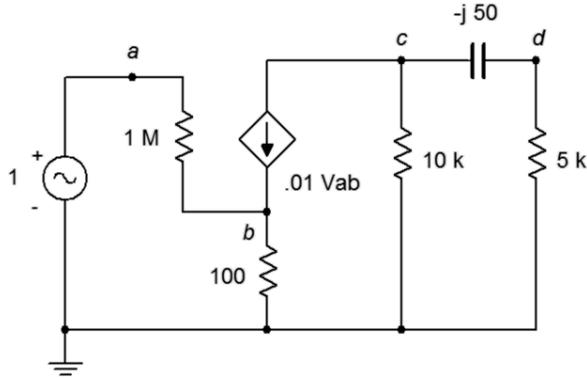

Figure 6.27
60. Given the circuit in Figure 6.27, determine the current flowing through the  $100\ \Omega$  resistor.
61. Determine  $v_d$  in the circuit of Figure 6.27.